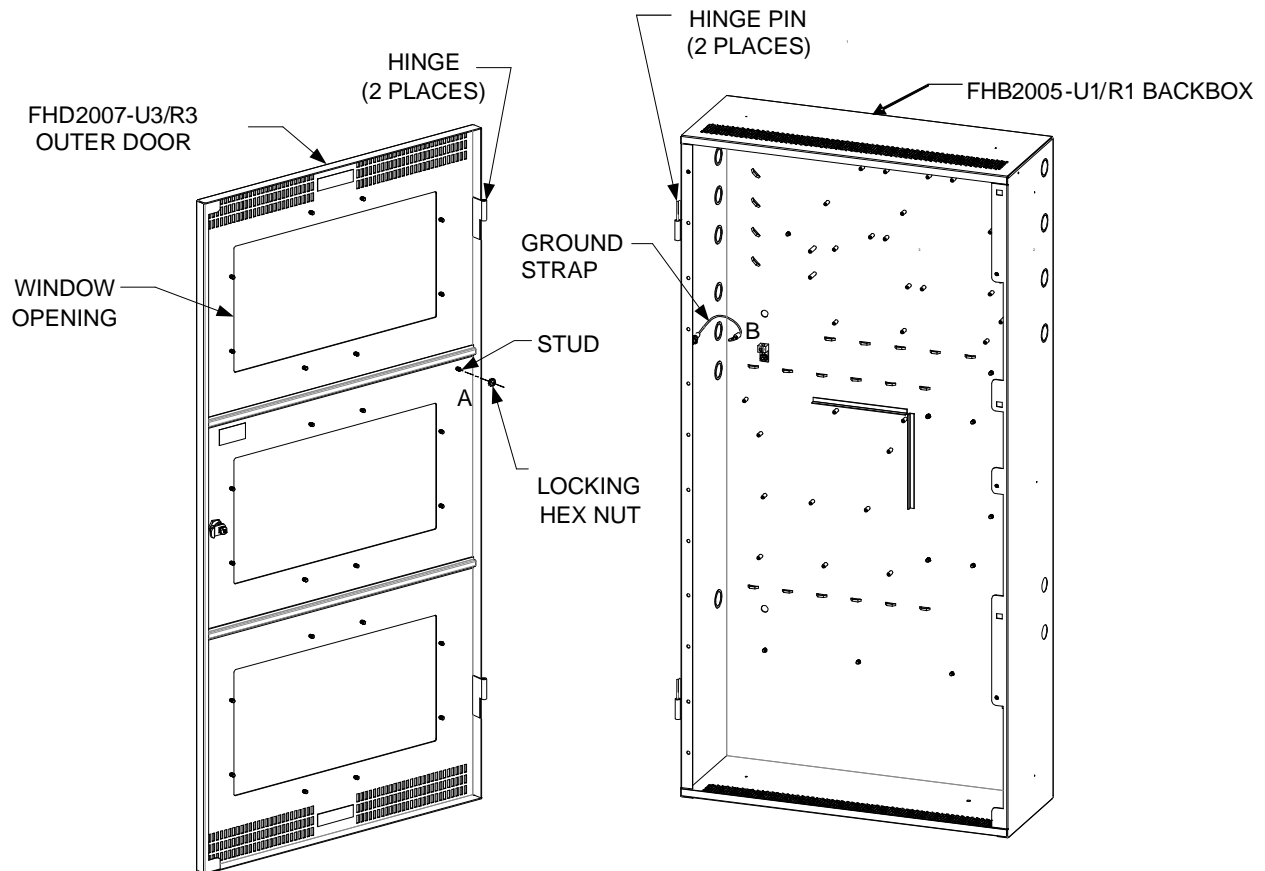

Figure 2
1. Referring to Figure 2, hold the FHD2007-U3/R3 outer door adjacent to the FHB2005-U1/R1 backbox in the position shown and lower the upper and lower outer door hinges onto the backbox hinge pins.